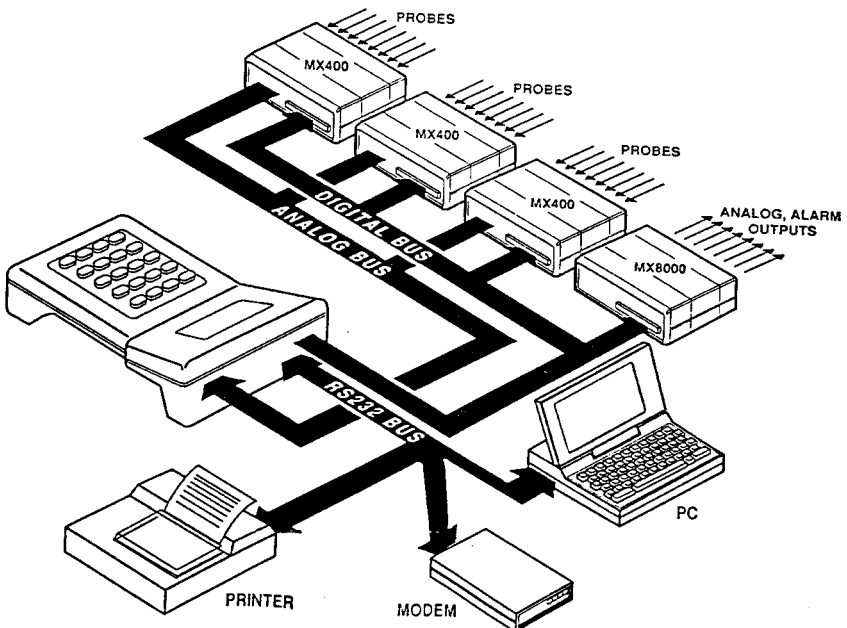

Fig 2.6 Multiplexed inputs and outputs
As well as connecting individual probes to the appropriate MPM4100 connector (Section 1.3.2), multiple inputs can be connected via Solomat multiplex (MX) units (Fig 2.6) and selection between these probes made by the setting of the MPM4100 channel options (Section 2.3). MX units can be sited up to 100 m from the MPM4100.